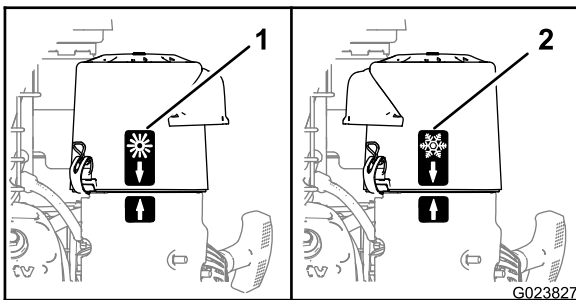

Figure 8
- When operating in a cold ambient air condition (cold air temperature and humidity), position the air-cleaner cover with snowflake decal facing out (Figure 8).
- When operating in a normal ambient air condition, position the air-cleaner cover with sun decal facing out (Figure 8).